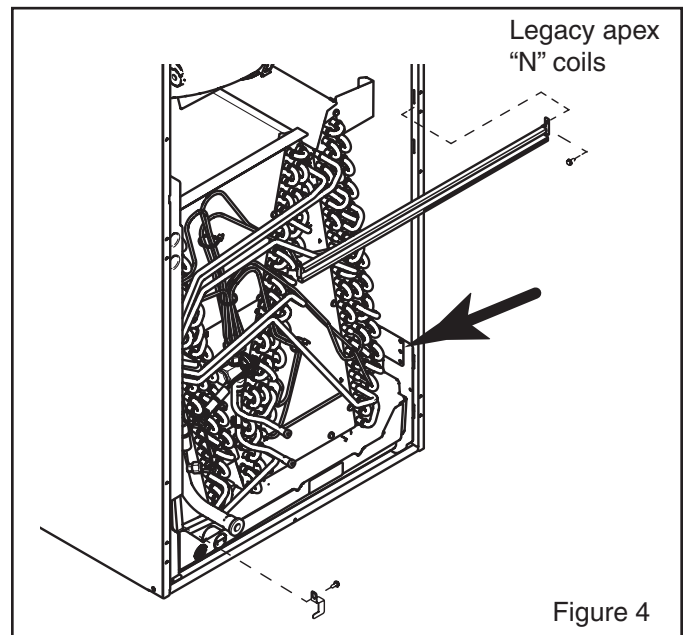

Figure 4
2. On the "N" coil only, remove the shipping bracket if present. See Figure 4.